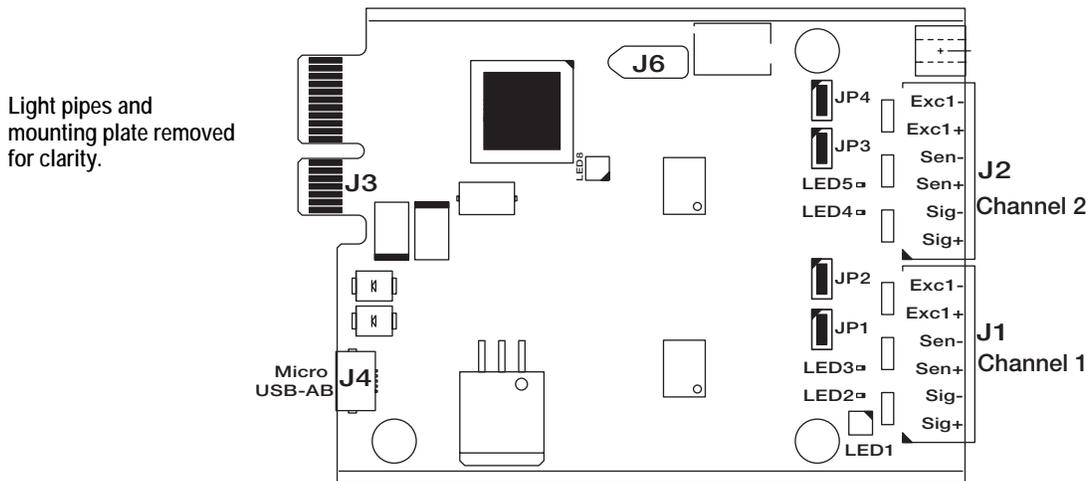

Figure 2-30. Single and Dual A/D Scale Cards
3. Plug the connector into the appropriate channel of the A/D scale card (see Figure 2-30).